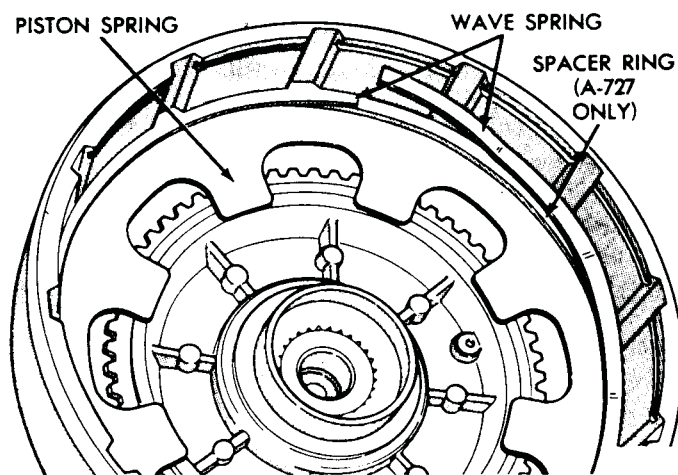

Fig. 18—Installing Rear Clutch Spring
(3) Place piston assembly in retainer and, with a twisting motion, seat piston in bottom of retainer.
(4) Place clutch piston spring on top of piston in clutch retainer. Start one end of wave spring in retainer groove (Fig. 18), then progressively push or tap spring into place making sure it is fully seated in the groove.
(5) Install inner pressure plate in clutch retainer with raised portion of plate resting on the spring.